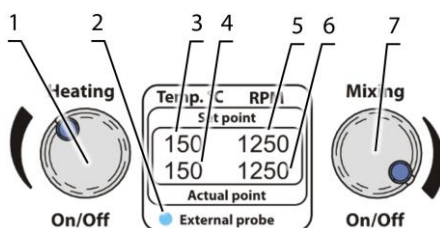

Figure 3. MSH-300i control panel3
- On the upper line, **Set point**: temperature mode indication (OFF) or previously set temperature (fig. 3/3) of a heating surface or liquid (if external probe is activated) and set speed of magnetic stirring element (fig. 3/5).
- On the lower line, **Actual point**: current temperature (fig. 3/4) of the surface or liquid (if the external probe is active) and current speed (fig. 3/6).
5.3.5 **Plate temperature control.** Using the **Heating** knob (fig. 3/1), switch the heating **On** and set the required temperature (in the 30 to 330°C range).
Note. The heating will be switched off when the actual temperature exceeds the set temperature over 30°C. Actual temperature readings (fig. 3/4) start flashing until set temperature (fig. 3/3) is reached.
- The external probe indicator lights up on the control panel (fig. 3/2), showing that the temperature control is now performed via the external probe.
- Using the **Heating** knob (fig. 3/1), switch the heating on and set the required liquid temperature (in the 20°C to 150°C range).
Caution! The indicator lamp (fig. 3/2) flashing shows that the external probe is not dipped into the liquid and the plate temperature has reached its maximum of 340°C. This can cause an emergency situation, so dip the external probe in-to liquid or switch off the unit.
5.3.7 **Mixing speed control.** Using the **Mixing** knob (fig. 3/7) switch the mixing mode on and set the required speed (100–1250 rpm range).